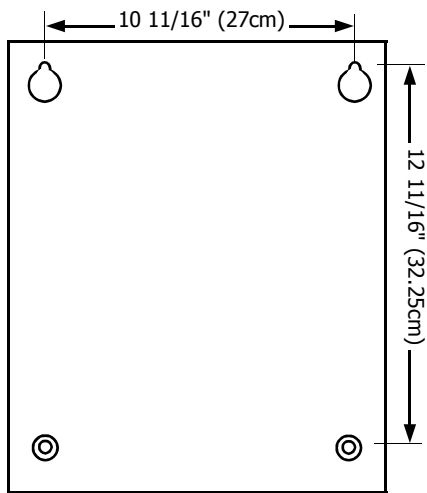

Figure 4 - NAX-200X Cabinet Mounting Hole Dimensions
2. Mark the four mounting holes against the mounting surface using the NAX-200X cabinet as a template or using the measurements provided in Figure 4.